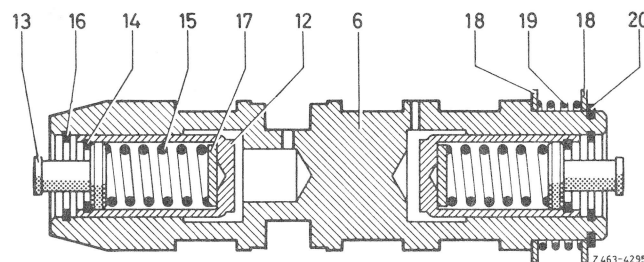

Fig. 9 Control valve version 1
Note: Do not remove supporting bolts (13) from reaction pistons (12), since spring preload of compression spring (15) has been set by means of compensating washers (17) (Fig. 9).